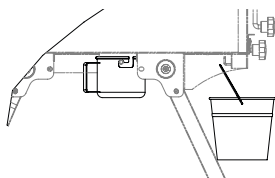

FIG. 7
1. Hang grease bucket from tube as shown in Fig 7.